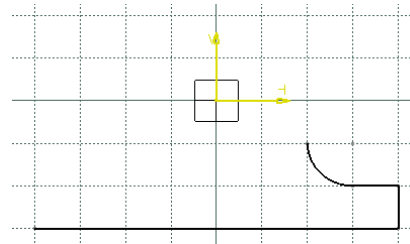

Figure 2-55 The sketch after drawing three lines and a tangent arc
- b. Draw the sketch of the model using the **Profile** and **Rectangle** tools, refer to Figures 2-55 through 2-57.
7. Move the cursor to the location whose coordinates are 20,-10 and click to specify the endpoint of the tangent arc; the **Line** mode is activated and the line gets attached to the cursor again. Figure 2-55 shows the sketch after drawing three lines and a tangent arc. In this figure, the constraints are hidden for better visualization.